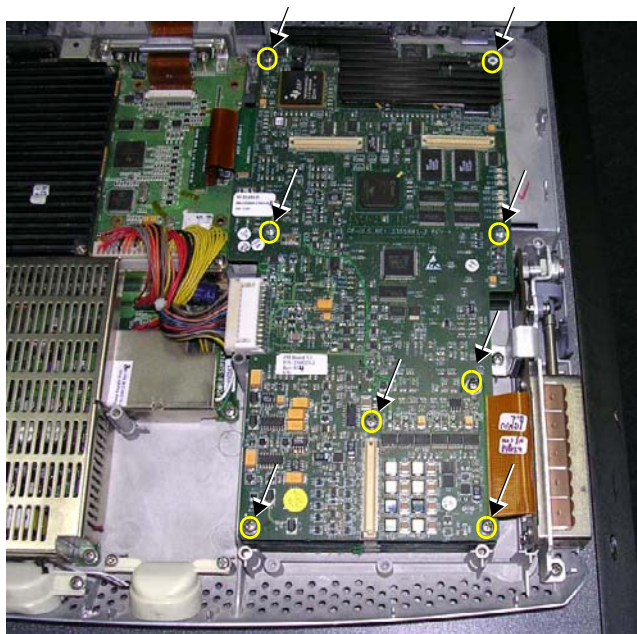

Figure 8-25 Loosen Screws that Secure TR32 and RFI Boards to Bottom Assembly
- 2) Loosen the eight screws that secure the TR32 and RFI Boards to the Bottom Assembly, as shown in Figure 8-25 below.
- 6.) Return the eight screws and fasten the TR32 and RFI Board assembly firmly in position on the Bottom Assembly (refer to Figure 8-25 and Figure 8-26 on page 8-28).